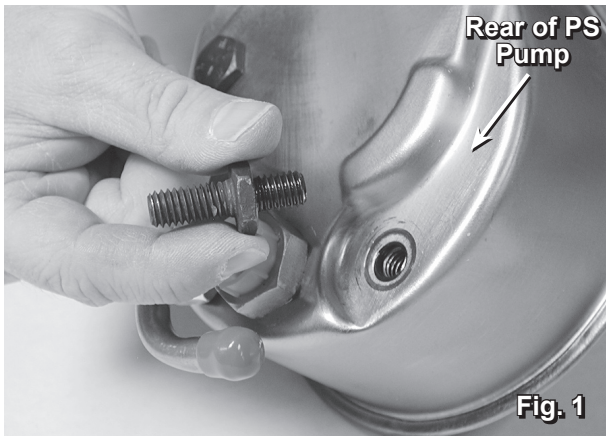

Fig. 1
1. If your power steering pump came equipped with a mounting stud at the rear of the pump use a  $1\frac{1}{16}$ " wrench to remove the mounting stud from the pump unit (fig. 1).